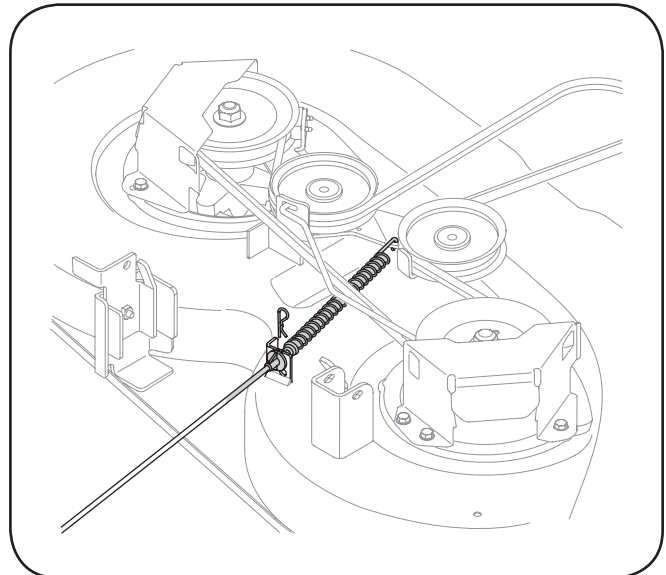

Figure 7-3
9. Carefully remove the PTO cable from the rear of the cutting deck by removing the hair pin clip which secures it. Remove the spring from the deck idler bracket. See Fig. 7-3